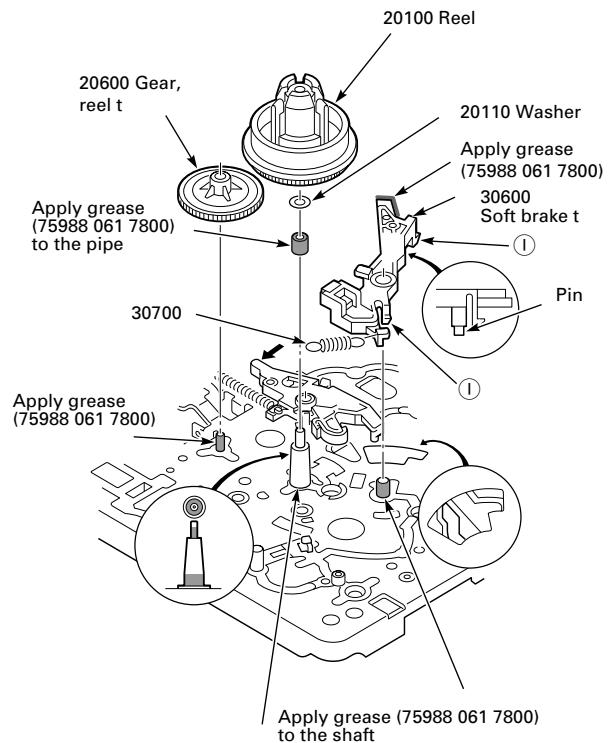
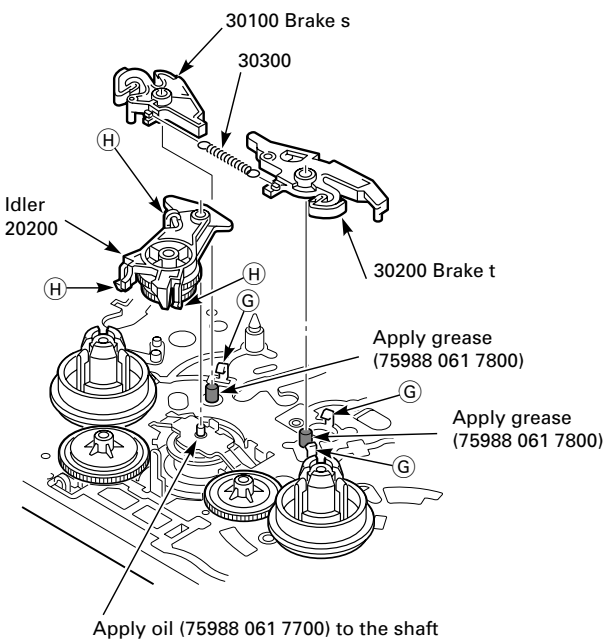
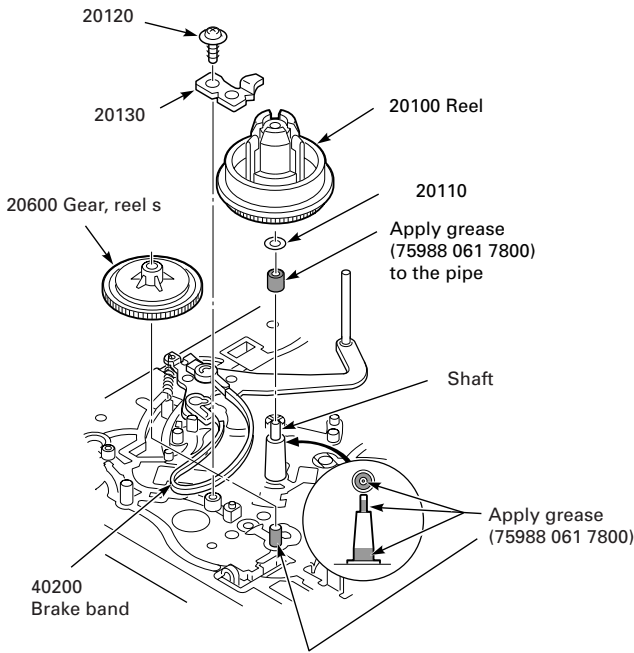

Fig. 8.19
Fig. 8.17
Fig. 8.20
- Unhook the spring of the main brakes (30300), disengage the clamp ⑥ and remove the brakes (30100 and 30200, Fig. 8.17).
- Disengage the clamp ⑨ and remove the idler (20200, Fig. 8.17).
- Unhook the spring (30700), disengage the clamp ① and remove the soft brake (30600, Fig. 8.19).
- Always use the types of grease with part numbers **75988 061 7700** and **75988 061 7800** for lubricating the soft brake slide and follow the lubrication instructions given in Fig. 8.17 – Fig. 8.19!
- Remove the right take-up reel (20100, Fig. 8.19).
- Remove the left take-up reel (20100) (Fig. 8.20).
**Attention:** The bushings shown in Fig. 8.19 and 8.20 can only be replaced if they are of plastic material.
- For lubricating the axles and the bushing use exclusively the lubricant **75988 061 7800** and observe the lubricating notes in Fig. 8.19 and Fig. 8.20 (shaded surfaces)!